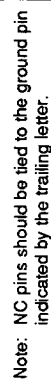

FIGURE 1: Functional Diagram
EXTERNAL COMPONENTS (Refer to Figure 1 for location of components.)
1. The input signal is transformer coupled as shown in Figure 1.
3. The circuit is connected as in Figure 1.